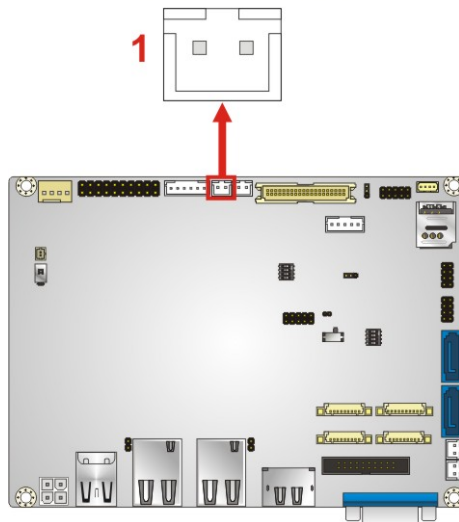

Figure 3-15: Power Button Connector Location
- CN Location:** See Figure 3-15